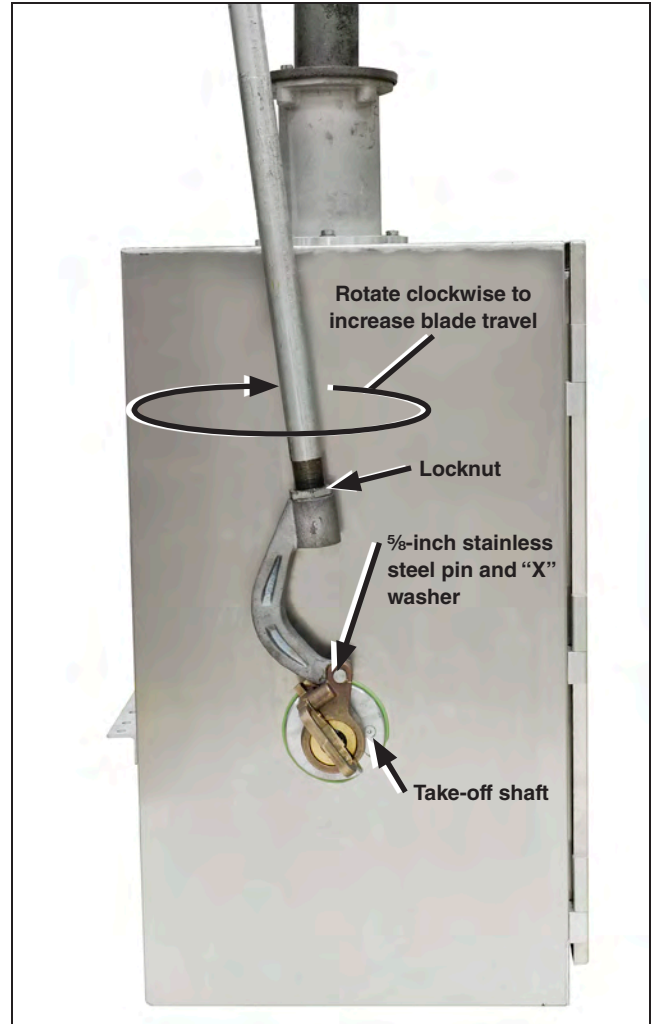
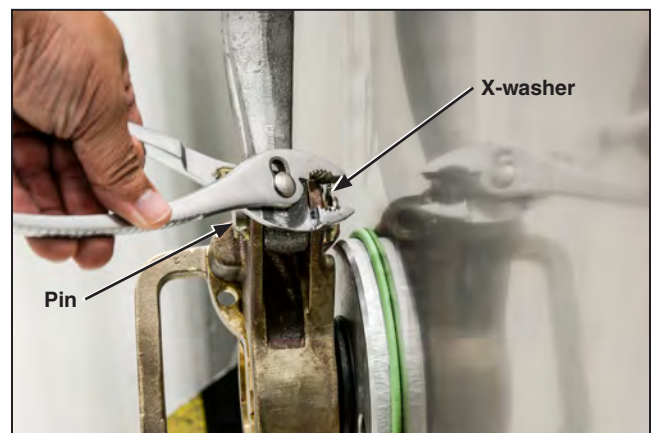

Figure 19. Rear of switch operator.
Figure 20. The “C”-shaped clevis on rear of operator connects the vertical operating pipe to the back of the operator using a 5/8-inch steel pin and X-washer.
STEP 5. Attach the “C”-shaped clevis at the lower end of the vertical operating-pipe assembly to the take-off shaft on the rear of the operator using a 5/8-inch stainless steel pin and the stainless steel “X” washer furnished. See Figure 19 and Figure 20. Then, attach the straight clevis at the upper end of the vertical operating-pipe assembly to the shorter of the bell-crank arms on the high-speed base using a 5/8-inch stainless steel pin and cotter pin furnished. See Figure 16 on page 23.